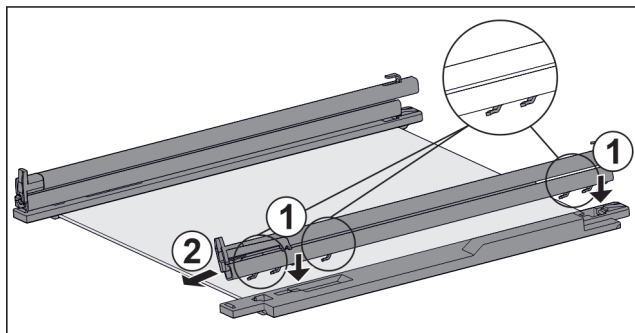

Fig. 100 Glass shelf with rails and retaining parts
- ▶ Place rail hooks onto the openings of the **left** retaining part. Fig. 100 (1)
- ▶ Push rail forwards. Fig. 100 (2)
- ▶ Place rail hooks onto the openings of the **right** retaining part. Fig. 100 (1)